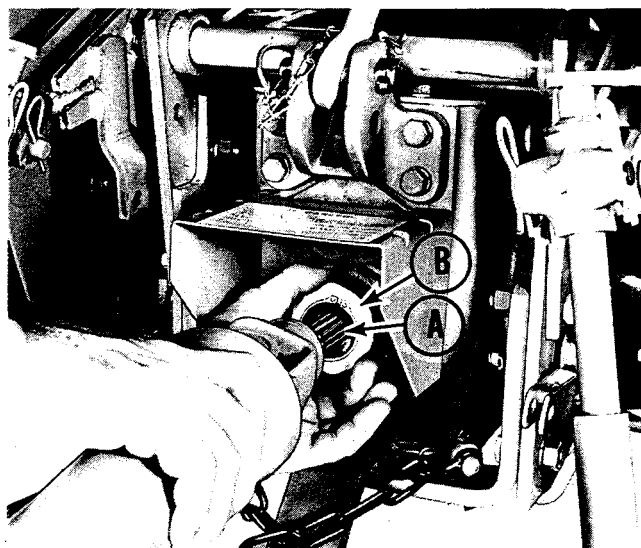

Figure 4. Installing tiller drive shaft in tractor power take off.
5. See figure 4. **CAUTION: INSURE THE TRACTOR ENGINE IS STOPPED BEFORE ATTEMPTING TO ATTACH THE POWER TAKE OFF SHAFT.** After insuring the drive
4. See figure 4. Remove the tiller drive shaft by releasing the